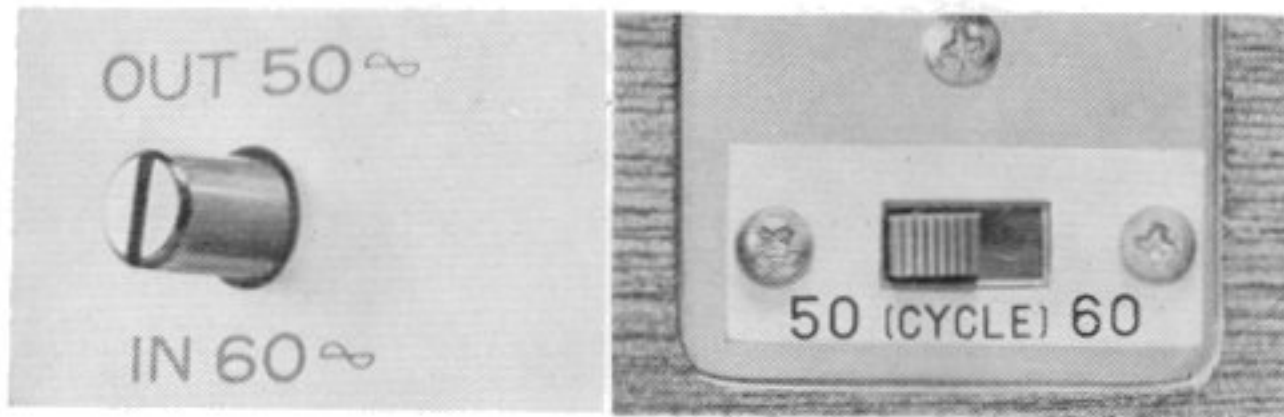

Fig. 8
Correct tape speed cannot be obtained if the Cycle Conversion Switches are not properly positioned. The CYCLE CONVERSION SWITCH (A) ② is located in the upper center of the top face panel and the CYCLE CONVERSION SWITCH (B) ③ is located in the rear of the recorder. Using a screw driver, rotate the CYCLE CONVERSION SWITCH (A) ② counter clockwise approximately one-eighth of a turn. The switch can then be moved either OUT or IN. 50 cycle operation is obtained by moving the switch OUT (Fig. 8), and 60 cycle operation by moving the switch IN (Fig. 9). The switch ② should be rotated back to its original position after it has been moved either OUT or IN. The CYCLE CONVERSION SWITCH (B) ③ should also be reset.